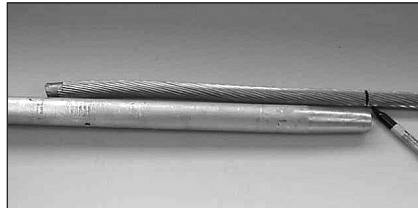

FIGURE 1: Mark the conductor and clean 1/2 the length of the sleeve.
1. Mark the conductor a distance of $\frac{1}{2}$ the length of the aluminum sleeve (**Figure 1**).